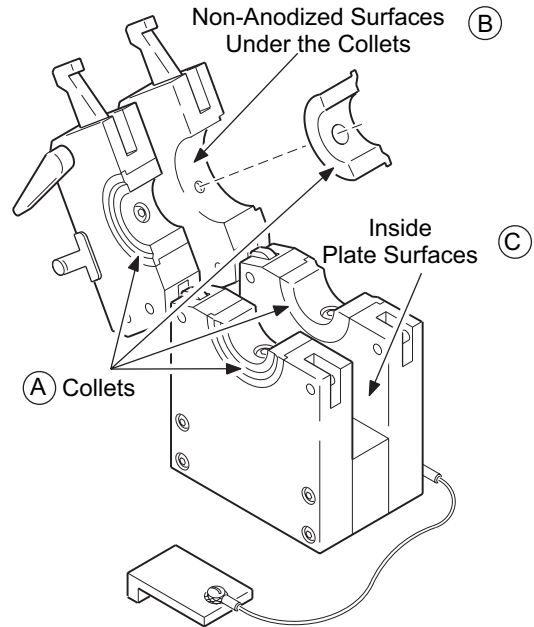

Figure 26 Cleaning the Collets and Collet Mounting Surfaces
1. Inspect the fixture block for cleanliness, wear and damage. See Figure 26.
1. Inspect and clean the collets. See Figure 26(A).
4. Remove any oxides from the non-anodized mating surfaces of the side plates with a fine-grit abrasive pad. See Figure 26(B).
5. Remove any dirt and oxides from the inside surfaces of the side plates with a clean, soft cloth. See Figure 26(C). Remove heavier deposits with a fine-grit abrasive pad.